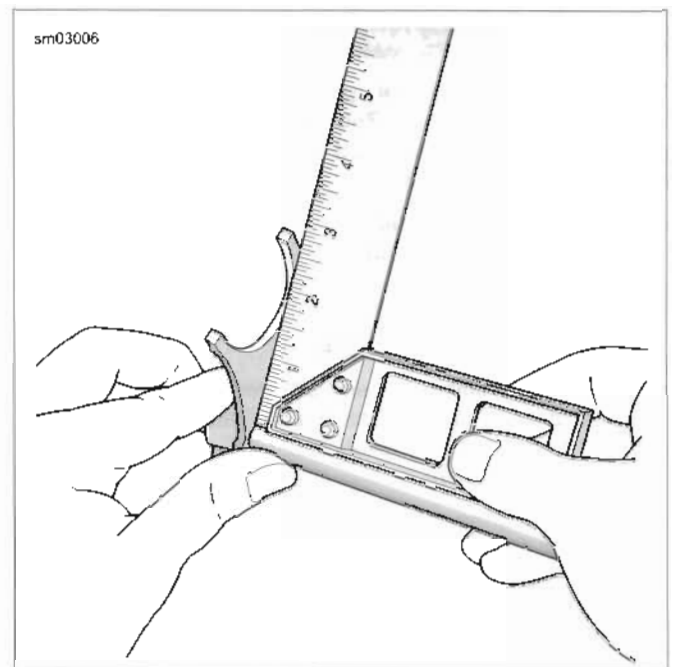

Figure 6-25. Checking Fork
- See Figure 6-25. Using a small square, verify the shift forks are square. If shift fork does not rest directly on the square, then it is bent and must be replaced.